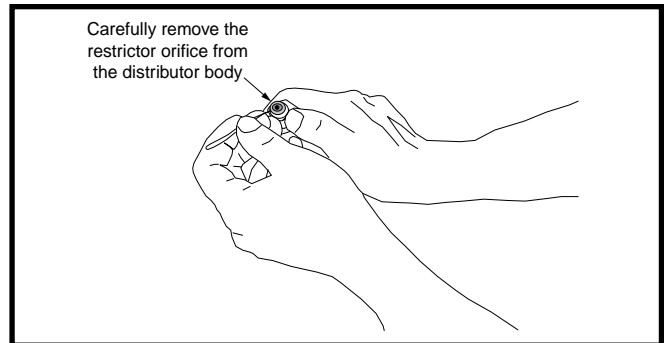

Figure 3. Removal of Orifice
2. Insert a light-gauge wire hook between the distributor body and the restrictor orifice while being careful not to scratch either part. Carefully remove the restrictor orifice from the distributor body. See Figure 3.